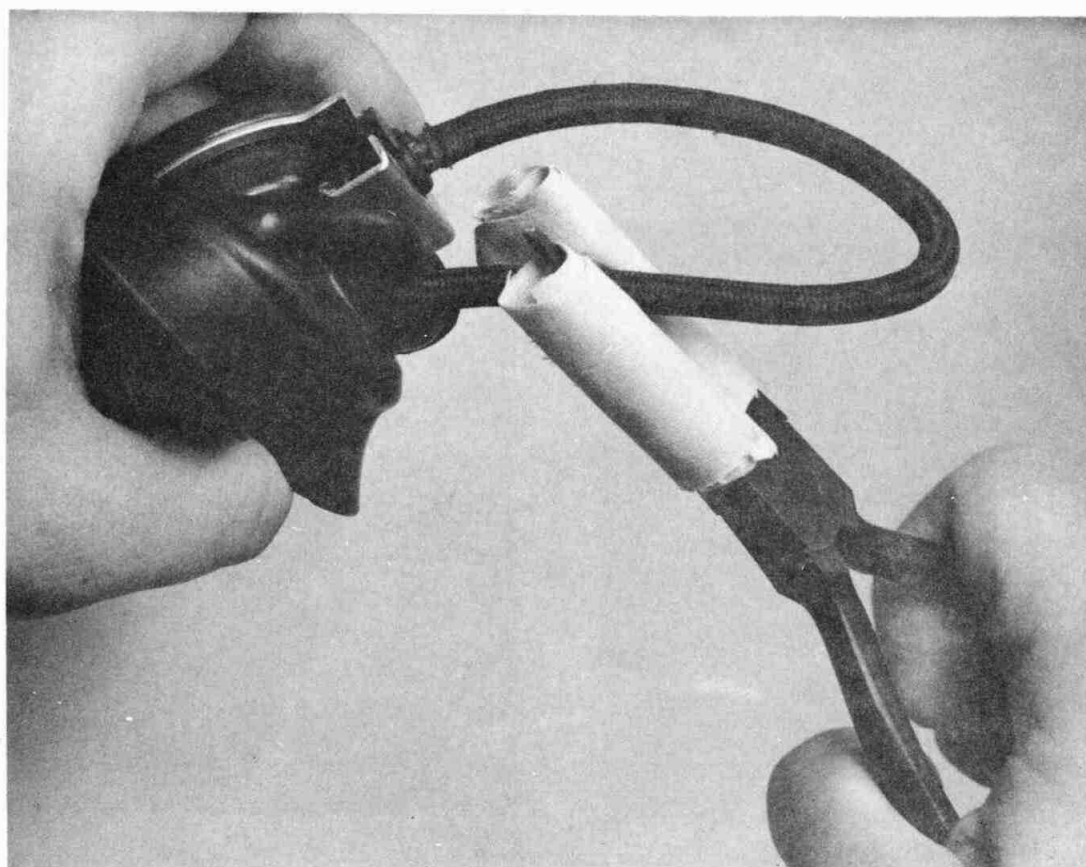

Fig 5 - Removing the moulding (3)
- c. The special purpose cable assembly should be eased through the moulding with pliers wrapped in cloth in the manner and to the position indicated in Fig 5.